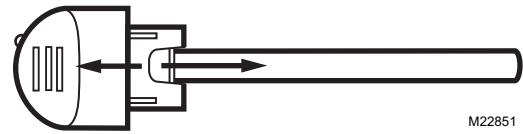

Fig. 16. Disconnect lamp glass from SnapLamp™ handle.
- If you have a SnapLamp™ handle, follow steps 5 and 6; otherwise, proceed to step 7. Grasp the SnapLamp™ handle in one hand and the lamp glass in the other and pull straight apart. See Fig. 16.